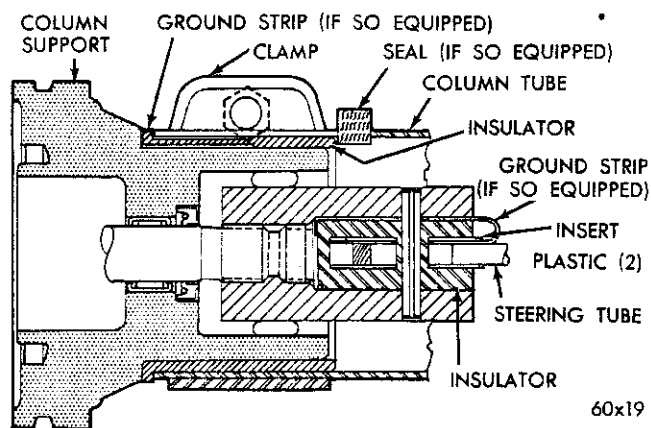

Fig. 30—Jacket Tube and Column Tube (Cross Section)
(23) Disconnect the hydraulic brake line at the master cylinder and the brake tee and remove the line (not necessary on Imperial cars).
(24) Disconnect the pressure and return hoses at the steering gear. Fasten the ends of the hoses above the oil level in the reservoir. Cap the ends of the hoses. Cap the fittings on the steering gear.
(25) Slide the jacket tube up and off the steering gear through the driver's compartment. Remove the jacket tube upper spring and retainer. Remove the rubber insulator boot and horn ground strap.
(26) Remove the steering tube coupling pin, two plastic inserts, horn ground strap (Fig. 30), rubber insulator and the upper steering tube.
(27) Remove the gear housing to frame bolts, washers and alignment wedge. Slide the steering gear towards the rear of the vehicle and at the same time, raise the lower end of the gear to remove the gear at the engine compartment. (Remove the gear through the driver's compartment on Imperial cars.)